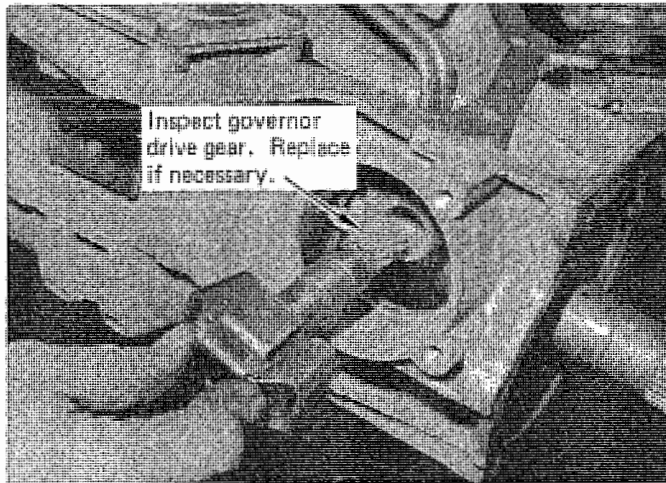

FIGURE 58
STEP 32. Inspect governor for damage. Replace as necessary. Lubricate governor bore with automatic transmission fluid and install governor assembly. (See Fig. 58) Install governor cover and gasket. Tighten four bolts 18 to 20-ft. lbs.